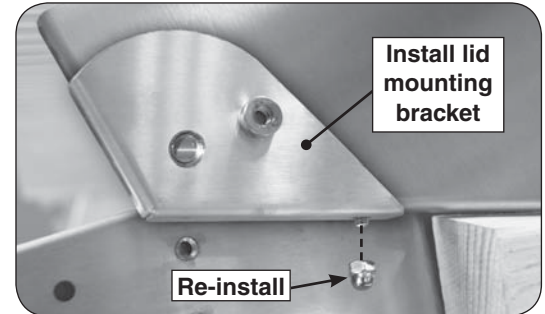

Fig. 3-2 Install lid mounting bracket
- Install the lid mounting bracket using the cap nut (tighten by hand). See Fig. 3-2.